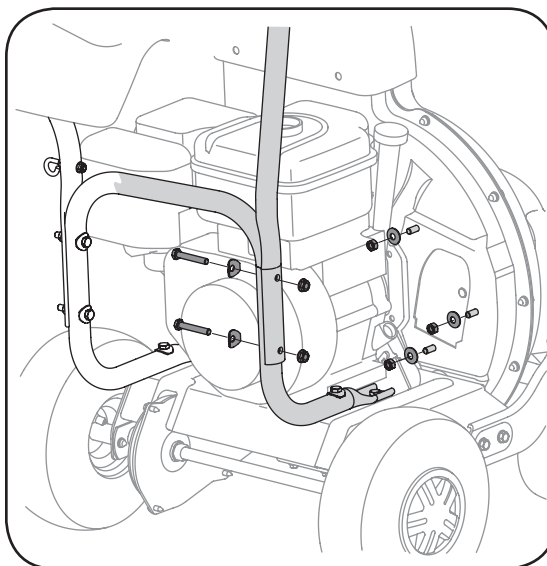

Figure 3-4
4. a. Remove the two flange nuts, hex bolts and saddle washers which secure the right side of the upper handle to the right side of the lower handle. See Figure 3-4.
- b. Remove the three hex nuts and bell washers from the weld studs beside the opening on the right side of the chipper-shredder vacuum. See Figure 3-4.